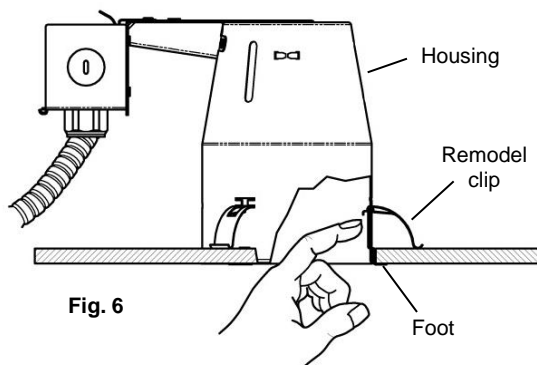

Fig. 6
3. Continue pushing the clips through, until they snap into position. The “foot” of each clip will hook the edge of the hole, preventing the housing from sliding further into the hole. (Fig. 6)